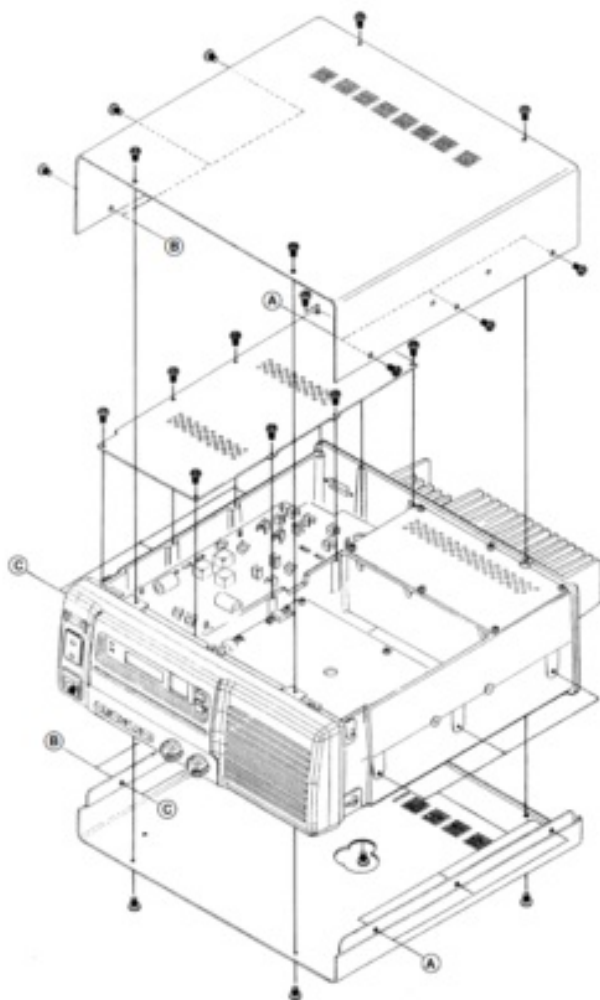

Figure 2
- Disconnect all wires and connectors from the FILTER Unit, then remove the six screws affixing the Switching Regulator Unit, and remove it (the Switching Regulator Unit is mounted with the FILTER Unit: Figure 2).